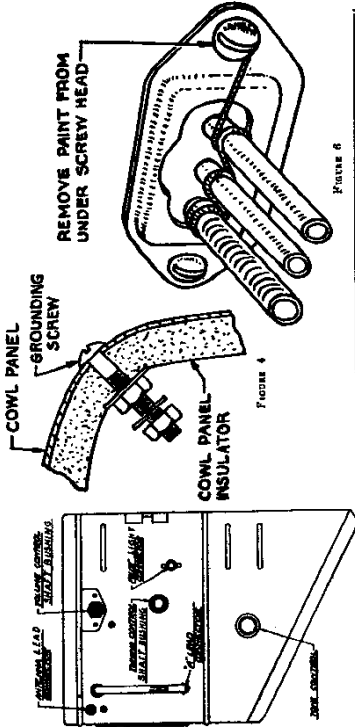

FIGURE 4
6. The shielded pigtail of the antenna lead must be grounded to the cowl. To do this, drill a 1/8" hole in the cowl in front of the hood line. Use an #48 bolt and connect the pig-tail correct under the nut. (See Figure 4).